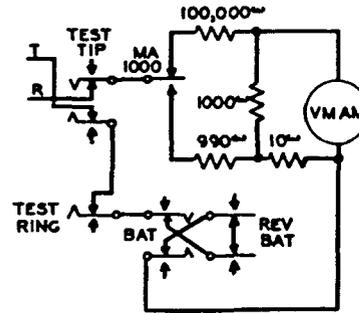

Fig. 5 - External Potential on Tip and Ring
3.18 External Potential on Tip and Ring (See Fig. 5): With the voltmeter test keys normal, the voltmeter is connected to the tip and ring of the trunk under test. Any foreign potential will be indicated directly.